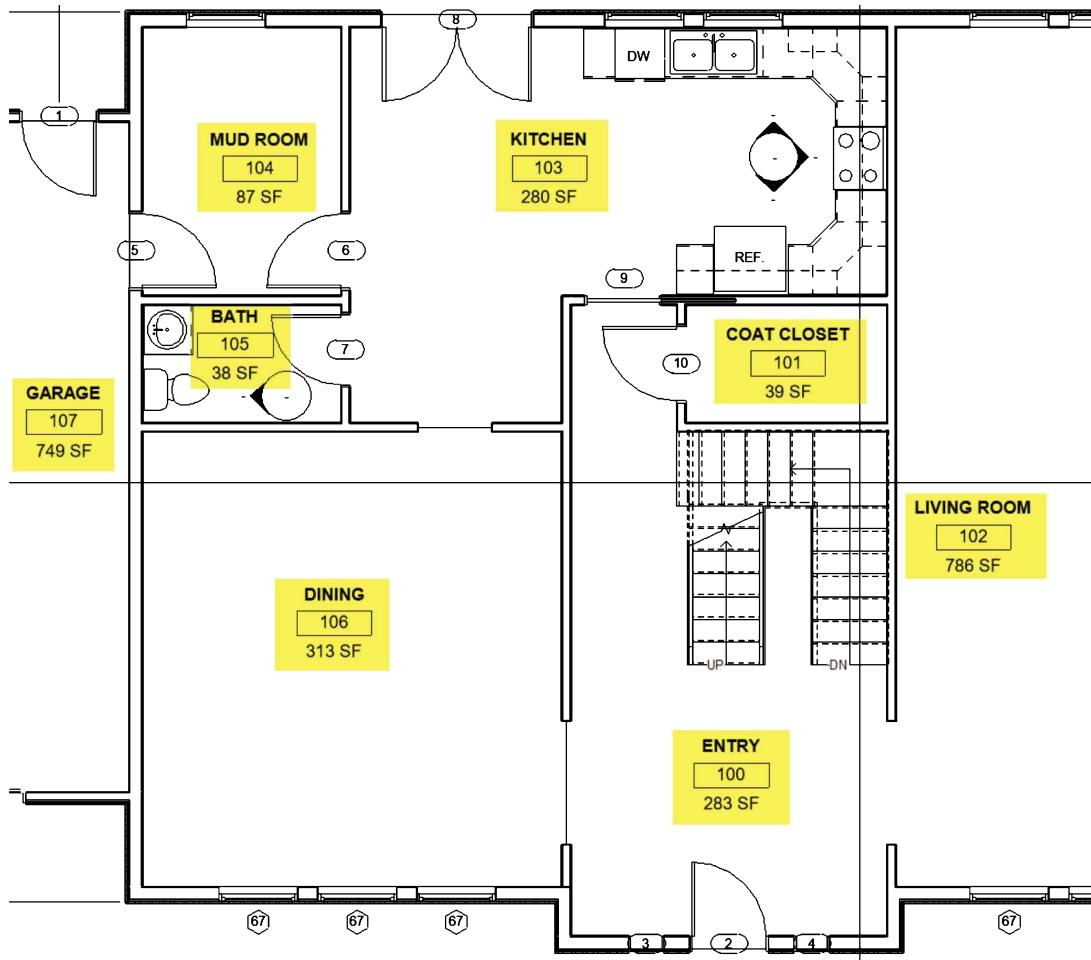

FIGURE 13-1.3 First Floor Room added – highlighted in this image for clarity
7. Add *Rooms/Room Tags* for each room on the first floor, incrementing each room number by 1 (Figure 13-1.3). Be sure to change the room names as well.